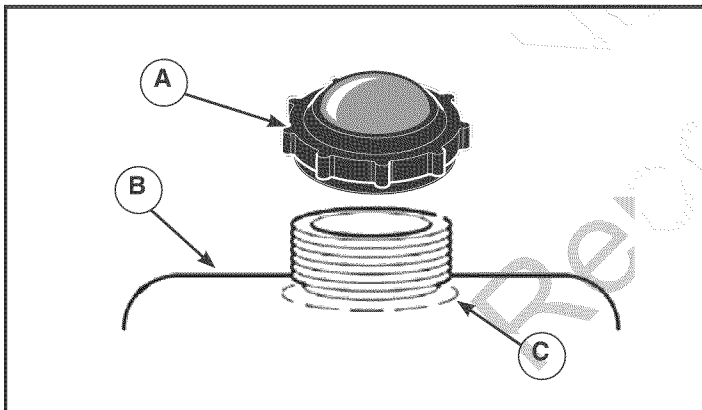

Figure 7
1. Clean the fuel cap area of dirt and debris. Remove the fuel cap (A, Figure 7). Also see **Features and Controls** section.
2. Fill the fuel tank (B) with fuel. To allow for expansion of the fuel, do not fill above the bottom of the fuel tank neck (C).